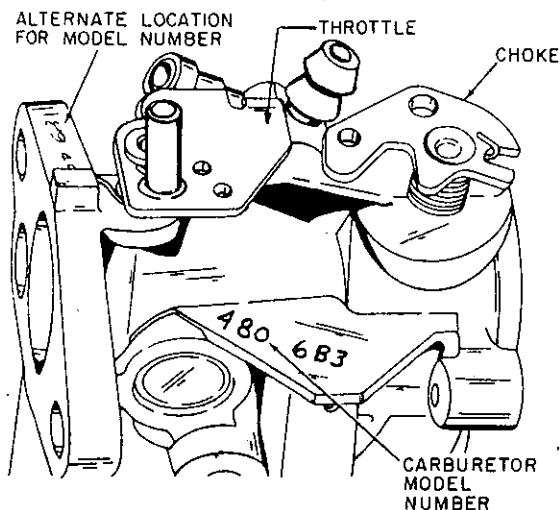

Figure 1
- A. When servicing the fuel system and especially the carburetor, first locate the identification code stamped on the carburetor body. (See Figure 1.)
- C. The last part of the carburetor identification code indicates date of manufacture. The example shown in Figure 1 would have been manufactured in 1976 as indicated by the "6"; in February as indicated by "B"; on the third day of the month as indicated by the last digit.